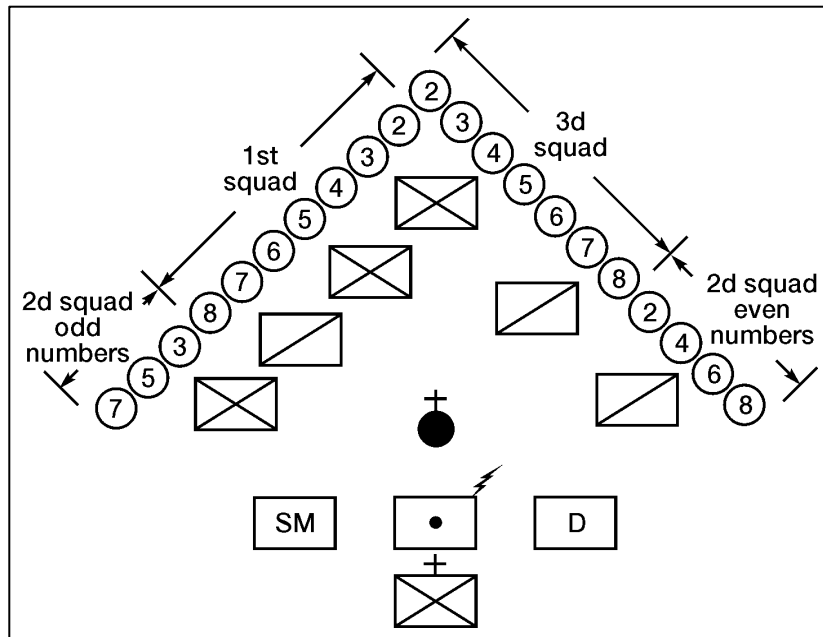

**Figure 191-379-5400-10. Platoon Wedge**
**9. Form the platoon in a platoon wedge (figure 191-379-5400-10).**